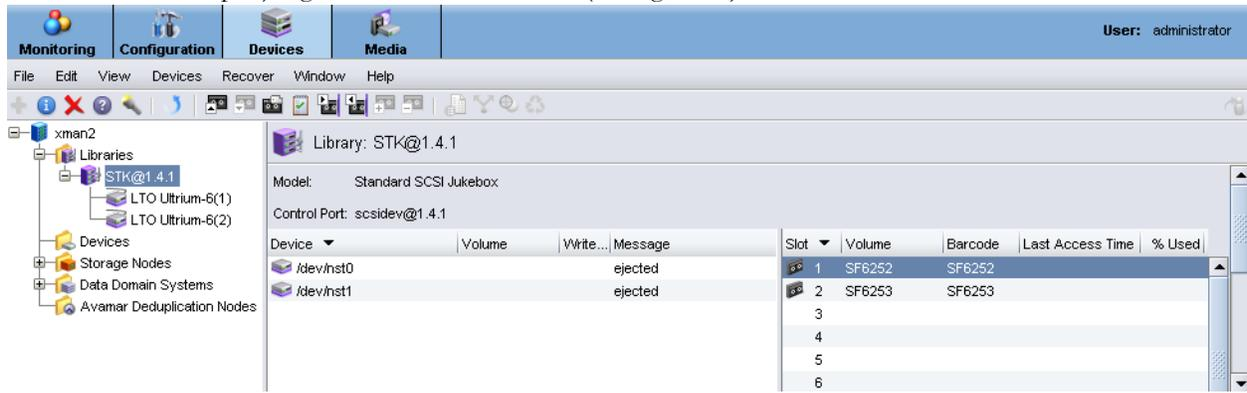

Figure 13: NetWorker Devices screen with Libraries expanded, the library selected and the media highlighted.
- 3) Select the media to be labeled into the backup pool (you can use shift + highlight or ctrl + highlight to select multiples), right click and select Label. (See figure 13):